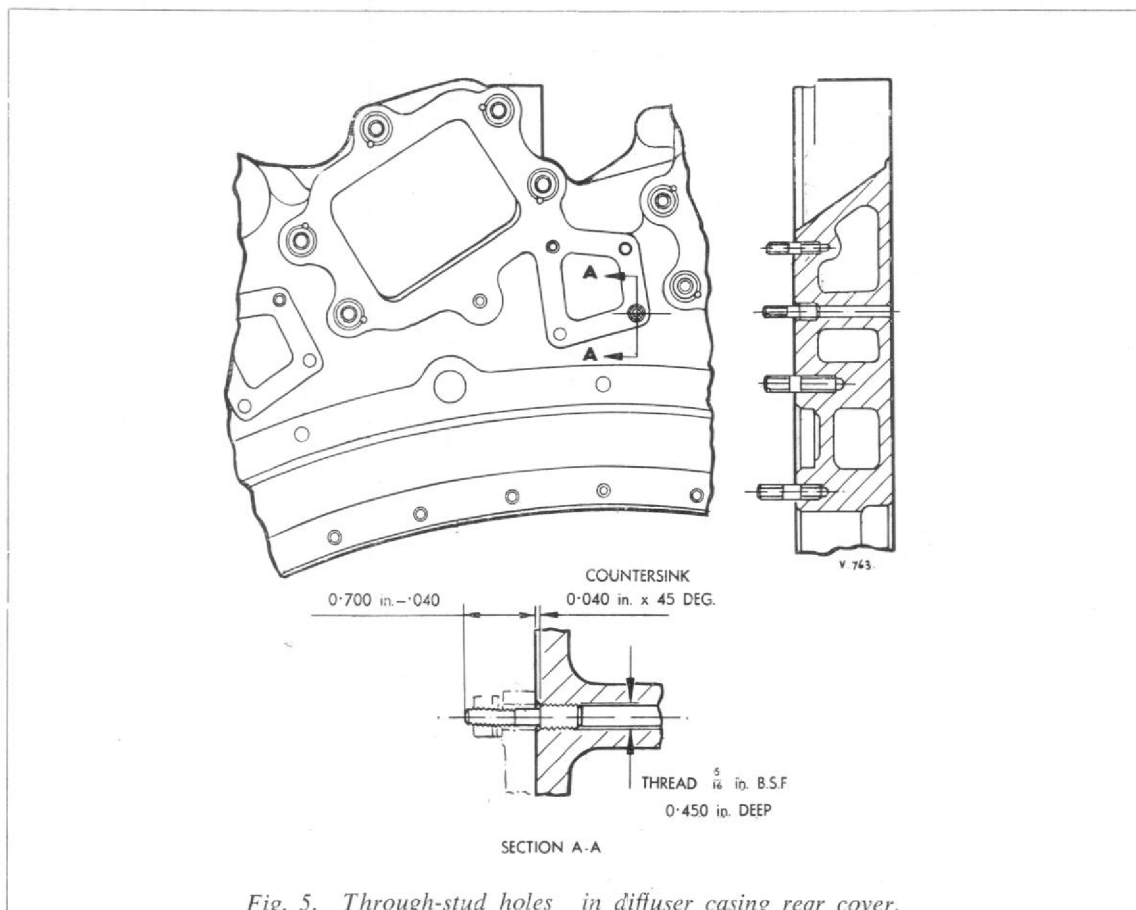

Fig. 5. Through-stud holes in diffuser casing rear cover.
1. Place a chalk mark on the rear cover adjacent to each one of the through-stud holes, Fig. 5, which is aligned with a damaged stud hole in the diffuser casing.
6. Screw in step stud, Part No. N.941, to the bottom of the thread. Check that the length of the 2 B.A. portion of the stud, which stands out from the joint face of the cover, is within the limits shown in Fig. 5.